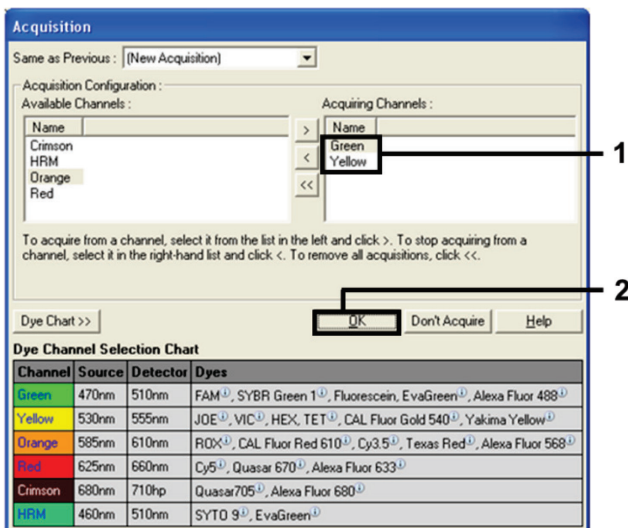

Figure 8. Acquiring at cycling step of 60°C.
10. Set Green and Yellow as acquiring channels by selecting > to transfer these from the **Available Channels** list. Click **OK** (Figure 8).